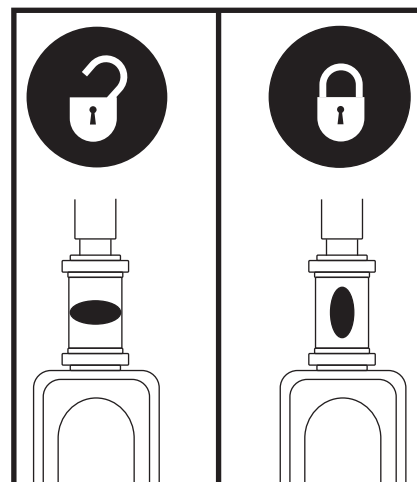

Figure 17. Tiller Lock Knob
1. Remove the key from the key switch and then lock the tiller in the straight ahead position by pushing the tiller lock knob in and turning it clockwise 90°. **See figure 17.** The front wheel must face forward in order to lock the tiller.
6. Unlock the tiller by turning the tiller lock knob 90° counterclockwise. **See figure 17.**